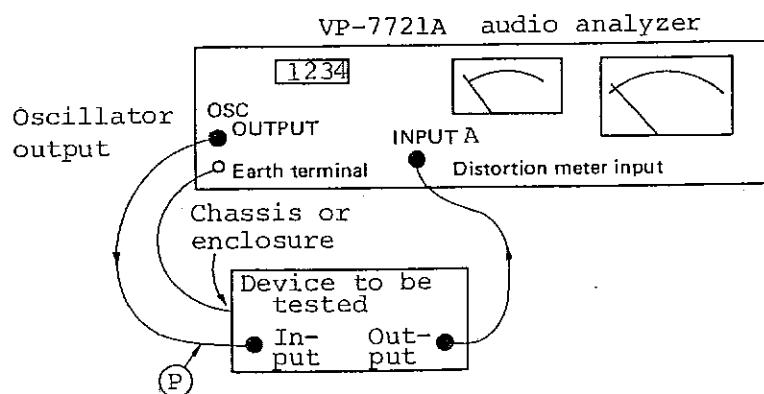

Fig. 4-15 Distortion measurement connection using internal oscillator
- a) Basic operation is the same as that described in Section 4.3. Connect the device to be tested to the analyzer as shown in Fig. 4-15. In this connection, the analyzer acts as an automatic tuning distortion measurement set.
- b) When the input and output of the device to be tested fits BNC connectors, the connection shown in Fig. 4-15 is possible. Coaxial cables are recommended. To prevent induction interference, connect a metal part of the device to be tested (such as chassis or enclosure) to the earth terminal of the analyzer as shown in Fig. 4-15
- c) When the input impedance of the device under test is 600-ohm, signals of the level displayed in the digital display are applied under the connection shown in Fig. 4-15. However, if the device under test has a high impedance, insert a 600  $\Omega$  termination pad at point (P). When the signal level is read in dBm, the signal should be terminated with 600  $\Omega$ . When the signal level is read in dB, the analyzer can be connected directly to a high-impedance input terminal only if you remember that the signal level is 6 dB higher than indicated.
The analyzer can also be used as an independent AC level meter indicating the true rms value. See Section 4.3 for the operation. Since the INPUT connectors are commonly used for distortion meter and the level meter, connect it according to Fig. 4-15 or 4-16.
- a) The S/N ratio can be measured by connecting the device to be tested as shown in Fig. 4-15.